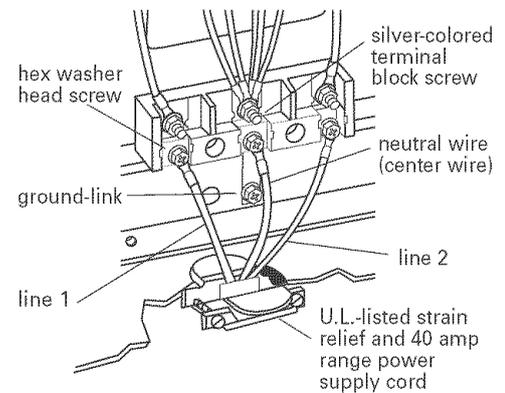

Figure 3
8. Connect the neutral (center) wire to the center terminal connector using one of the hex washer head screws. Securely tighten screw for proper electrical connection. See Figure 3.
9. Connect the other two wires (lines 1 and 2) to outer terminal screws on the terminal block. See Figure 3.